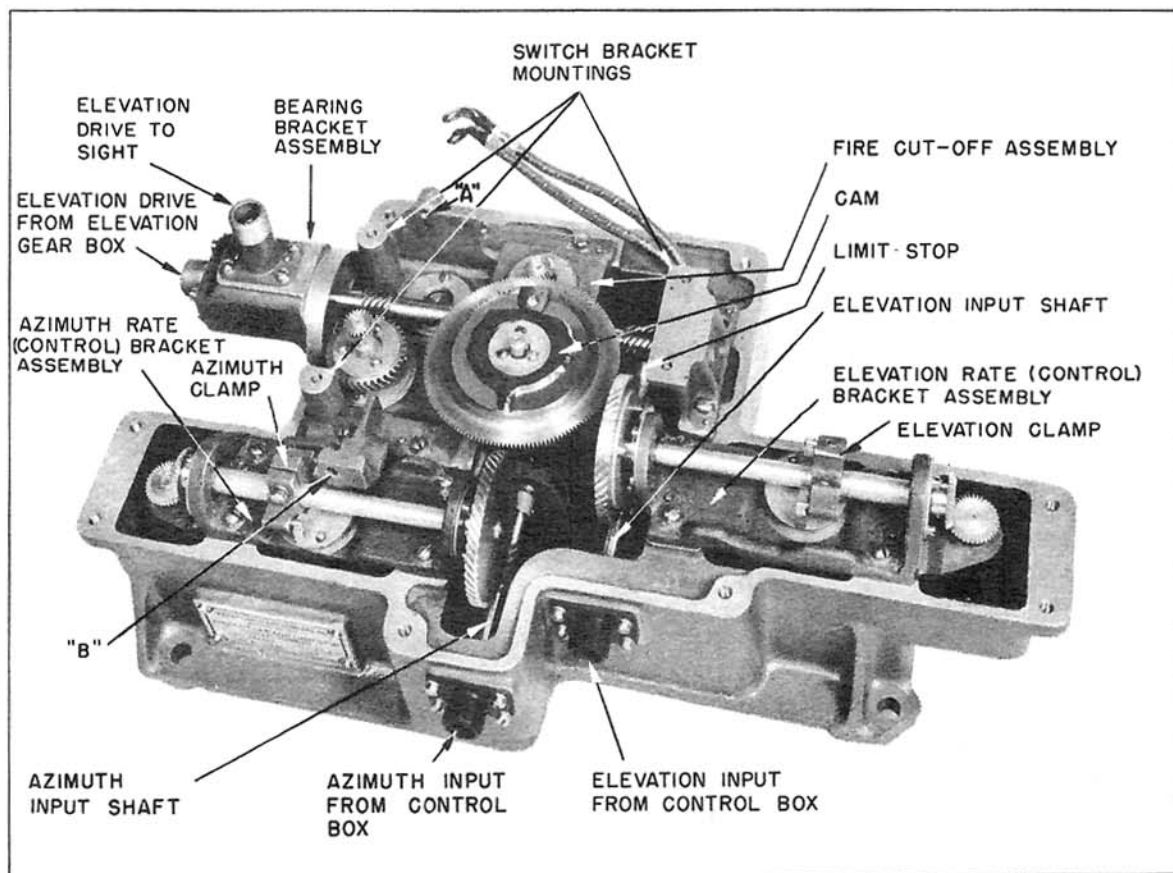

FIGURE 11
3. Elevation Rate (or Control) Bracket Assembly (Figures 11 and 12).
4. Azimuth Rate (or Control) Bracket Assembly (Figure 11).
5. Fire Cut-Off Assembly (Figures 11 and 13).
6. Limit Stop Assembly (Figure 11).
(e) To remove the rack assembly (see Figures 5 and 11), unhook the backlash spring from the fire cut-off assembly and unpin the shaft on which the lever and rack travel. This pin is located at "A" on Figure 11. The opposite end of the shaft is held in place at point "B" on Figure 11.
(h) To remove the fire cut-off assembly (see Figures 11 and 13) take out the 4 screws. This assembly has 3 spur gears which are driven through a coupling connection to the azimuth gear train and care should be taken to avoid burring them. The assembly should be placed in a safe location where there is no danger of the cam being damaged.
(j) Remove the azimuth rate (control) bracket assembly by following the same procedure as for the elevation rate bracket. (See Figure 11.)
(b) Insert the elevation input shaft. (See Figure 11.) This is the shaft on which the limit stop is located. Put on the retainer and the threaded flange. There should be no more than .001" end play between the collar and the bearing. The collar and bearing are at the same end of the shaft as the retainer.
(c) Next put in the azimuth input shaft and worm. This is held by a threaded flange retainer and 4 screws. (See Figure 11.)
(h) Next install the rack assembly. The lever and rack shaft is inserted into the bracket at "A" and "B" as shown in Figure 11. It is pinned at "A". Attach the backlash
(c) Elevation Clamp Setting. - 1. With the 3 screws on the limit stop adjustable flange loosened and elevation clamp screw loose, set the lever so that there is 1/4" clearance between the lever and mounting bracket "B". (See Figure 11.) Turn worm wheel on the elevation rate bracket assembly clockwise until it is stopped. (From the position in Figure 5, the top of the worm wheel should be turned directly toward the reader.) Holding lever and worm wheel in place, tighten the elevation clamp screw.